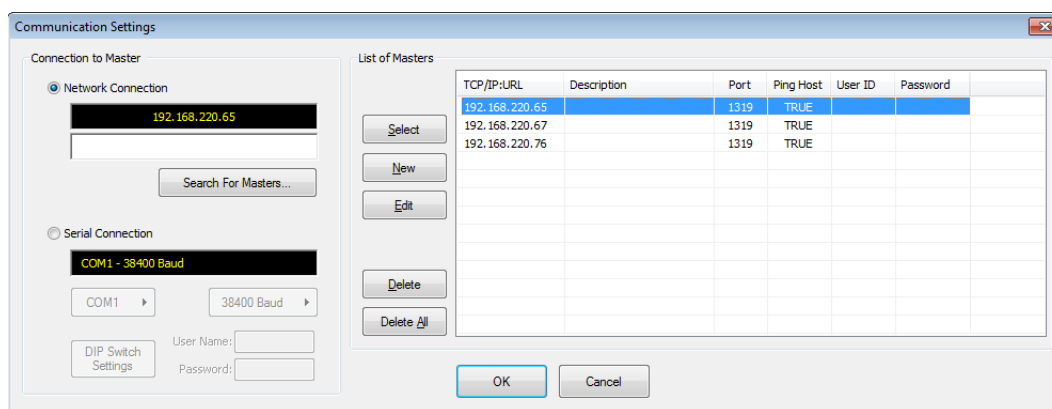

FIG. 28 Communications Settings dialog
1. Open RPMLoader and click **Communications Settings** to open the Connect to Master dialog (FIG. 28).